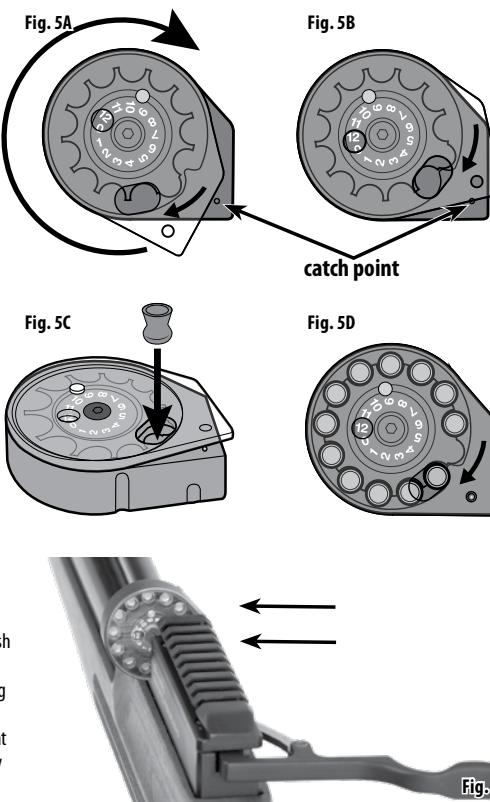

Fig. 7A
1. Push the button on the left-side and hold (Fig. 7A).